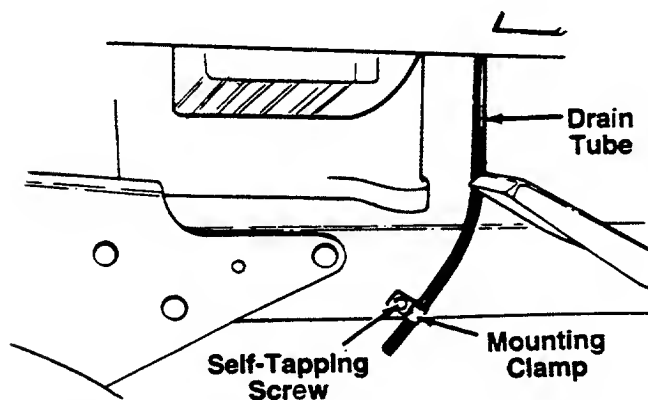

FIGURE 8.
6. Route the battery drain tube over to the left side of the tractor. Loosen the self-tapping screw which secures the mounting clamp. See figure 8. Slip the end of the drain tube into the mounting clamp. Tighten the self-tapping screw to secure the clamp. Do not overtighten which could collapse the drain tube.